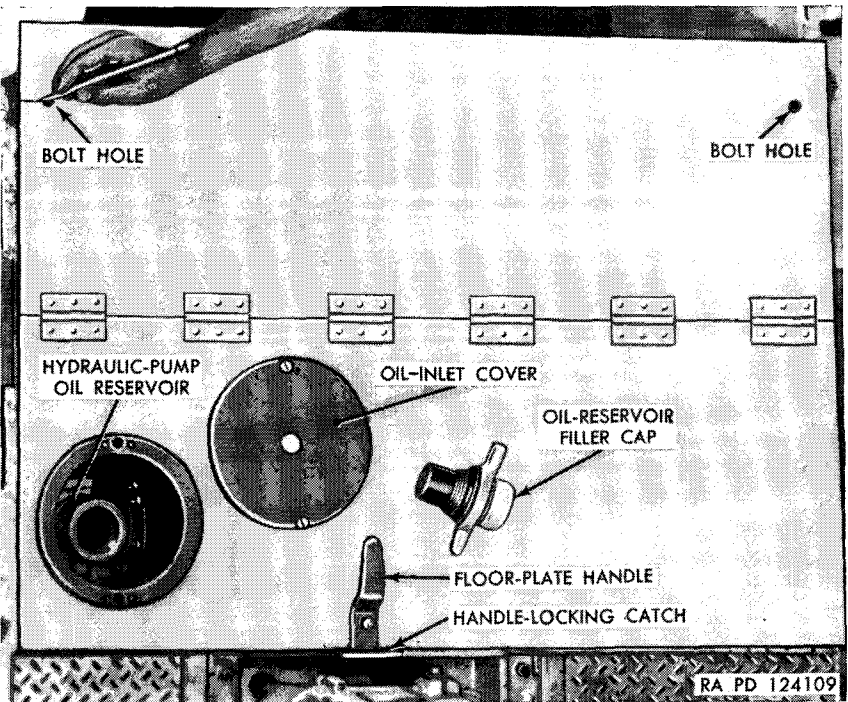

Figure 40. Locating left floor plate in turret compartment.
e. Place the hinged floor plate over the top of the space occupied by the hydraulic-pump reservoir and pump, locating the circular oil-inlet cover of the plate directly over the oil-filler cap of the reservoir (fig. 40).
Note. Edges of plate should rest on the top edges of the bulkheads at front and rear, and the panels at right and left of the space (fig. 40). The oil-inlet should be on the top side of the plate.
k. Rotate the handle at the right edge of the plate to place the long axis of the handle at a right angle to the right edge of the plate (fig. 40), with the longer portion of the handle at the left.
l. Engage the catch over the short portion of the handle (fig. 40), with the catch horizontal and projecting down at the left side of the bulkhead (under the floor plate).
a. HYDRAULIC-PUMP RESERVOIR. Loosen the two quarter-turn, self-locking fasteners in the oil-inlet cover and remove the cover (fig. 40). Remove the hydraulic-pump-reservoir filler cap and check the oil level. Add hydraulic oil (fig. 47), if required. The oil level should be flush with the bottom of the elbow below the cap (fig. 32).